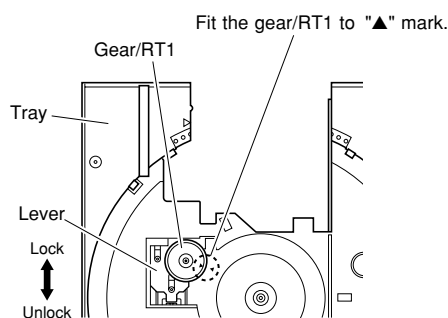

Fig. B-1
- Slide the lever so that the gear/RT1 becomes free. (Fig. B-1)
- With the "▲" mark on the gear/RT1 aligned with the same mark on the tray, lock it with the lever. (Fig. B-1)